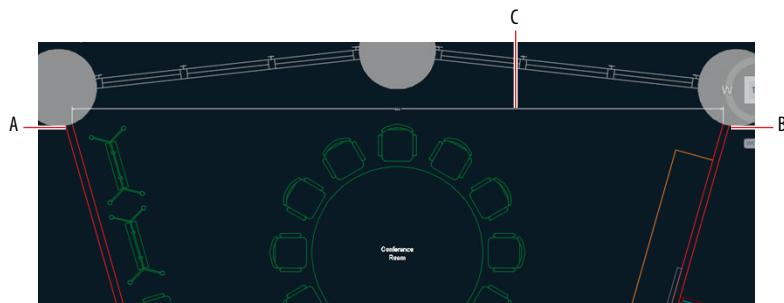

FIGURE 13.7 Drawing a linear dimension
3. Click the Linear dimension tool in the Annotation panel. Click points A, B, and C shown in Figure 13.7.